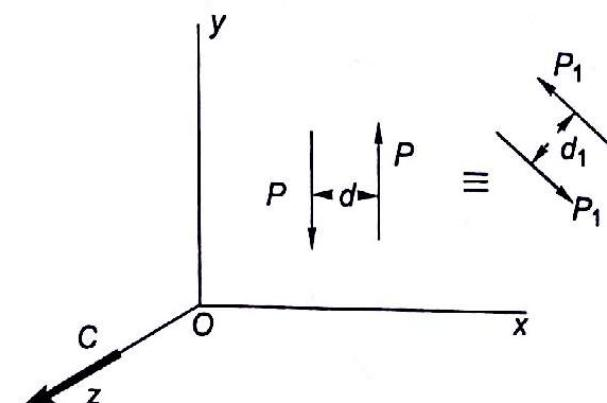

Fig. 2.3
- (c) Effect of a couple is only a couple moment. Couple is a free vector, therefore a couple can be changed in any manner so long as its moment remains the same i.e., (i) by changing the magnitude of force, (ii) by changing the arm of the couple, (iii) by changing the direction of forces (Fig. 2.3).